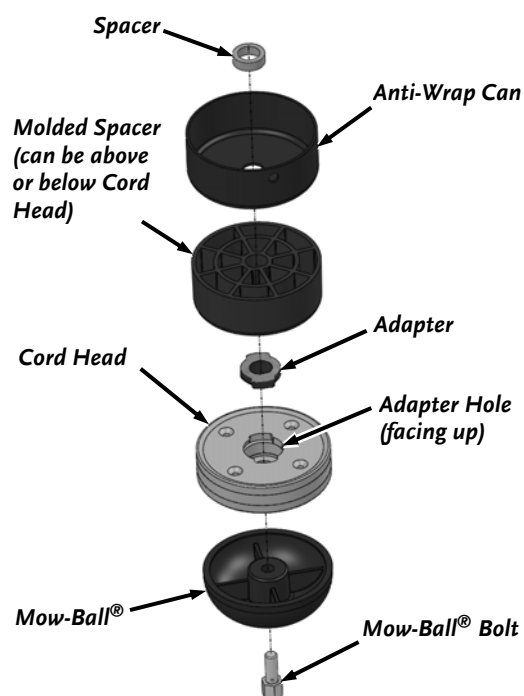

Figure 22
5. Slide the Cord Head, Adapter and Molded Spacer off the Shaft (**Figure 22**).